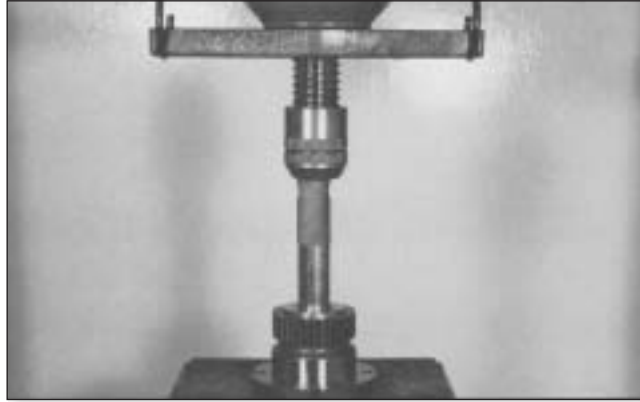

Figure 15
1. To remove the bearing, use a press and main bearing puller (Part #0000-09-0103). Remove the adapter ring from the puller and press from the gear side (as shown in Figure 15).